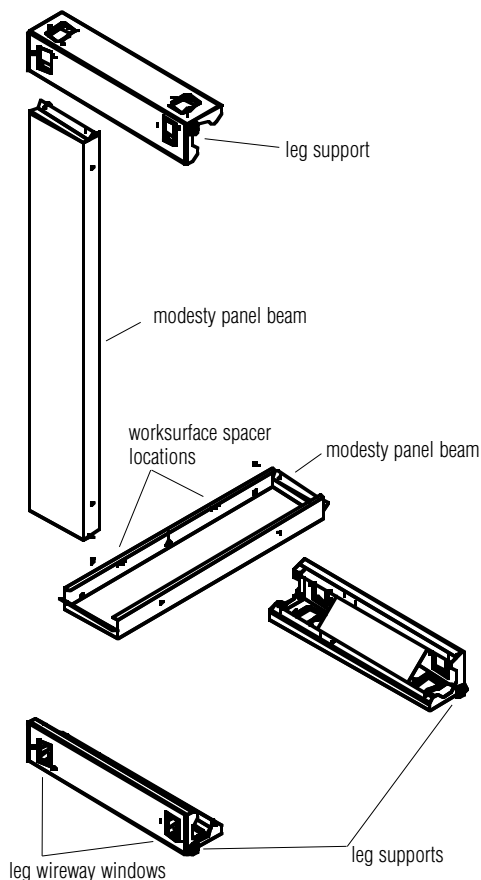

Figure 1
1. Remove all components from carton and locate hardware pack. Assemble one glide to each leg support on end with single-threaded inset. Attach leg wireway windows from inside of leg by hooking the long lip onto the rectangular cutout in leg support, flex the short lip slightly to clear cutout and push into place (Figure 1).
2. Place two leg supports on a soft surface approximately the same width as the desk. The open face of the triangular support should face up and toward the center of the workstation. Place a modesty panel beam between the leg supports, aligning holes in each flange with those of the leg supports. Secure with four $\frac{1}{4}$ -20 x $\frac{1}{2}$ screws (Figure 1).
3. Assemble return components by aligning flange holes in additional modesty panel beam with those of additional leg support. Secure with two $\frac{1}{4}$ -20 x $\frac{1}{2}$ screws (Figure 1).
4. Hold the return assembly perpendicular to the floor, aligning holes in modesty panel beam flange with those of the leg support. Secure with two $\frac{1}{4}$ -20 x $\frac{1}{2}$ screws (Figure 1).
5. Refer to space plan to determine whether unit is to have full- or transition-depth end panels and their location. Assemble glides to the threaded inserts facing the same direction as the leg support glides and adjust to approximately the same height. Align holes in end panel flange with those of the leg support. Secure with three $\frac{1}{4}$ -20 x $\frac{1}{2}$ screws. Carefully set assembly onto glides (Figure 1).